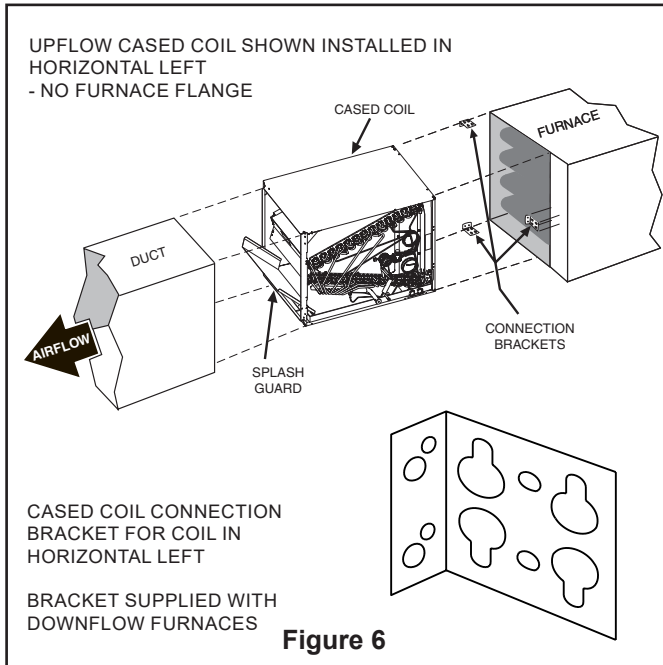

Figure 6
g. Attach the coil to the furnace. Horizontal left coils will require connection brackets if no furnace flange is present. See Figure 6. If furnace flange is present, use standoffs and screws provided with the upflow furnace. If furnace flange is present, use field provided screws no longer than 1.5" to attach furnace to cased coil in the four obround holes on the sides of the cased coil. See furnace installer guide for instructions.